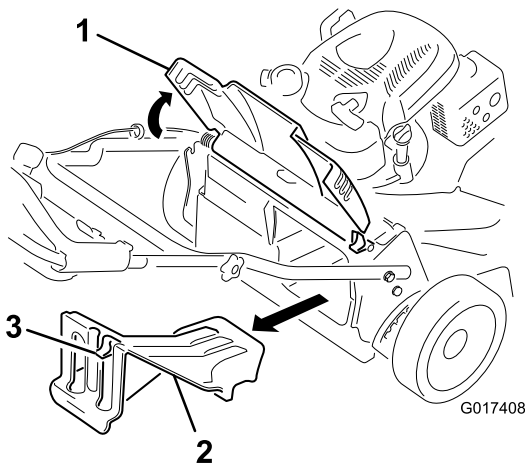

Figure 25
1. Raise and hold up the rear door (Figure 25).
2. Remove the rear-discharge plug by pulling down on the latch with your thumb and pulling the plug out from the machine (Figure 25).